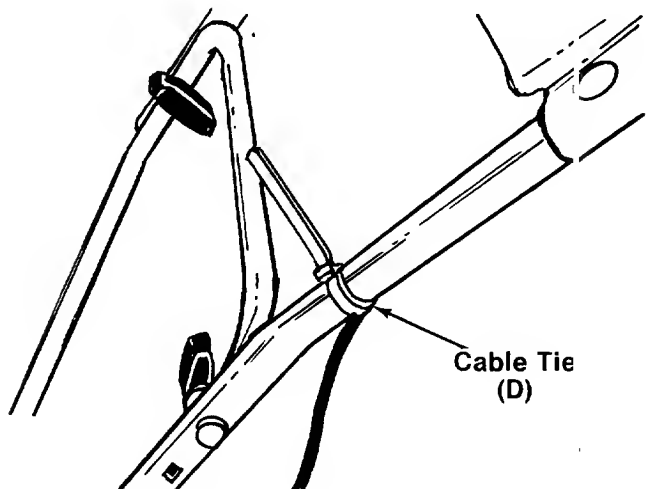

FIGURE 9.
11. Secure the clutch cable and throttle cable to the upper handles with cable ties (D) provided in hardware pack. See figure 9. Cut off excess end.